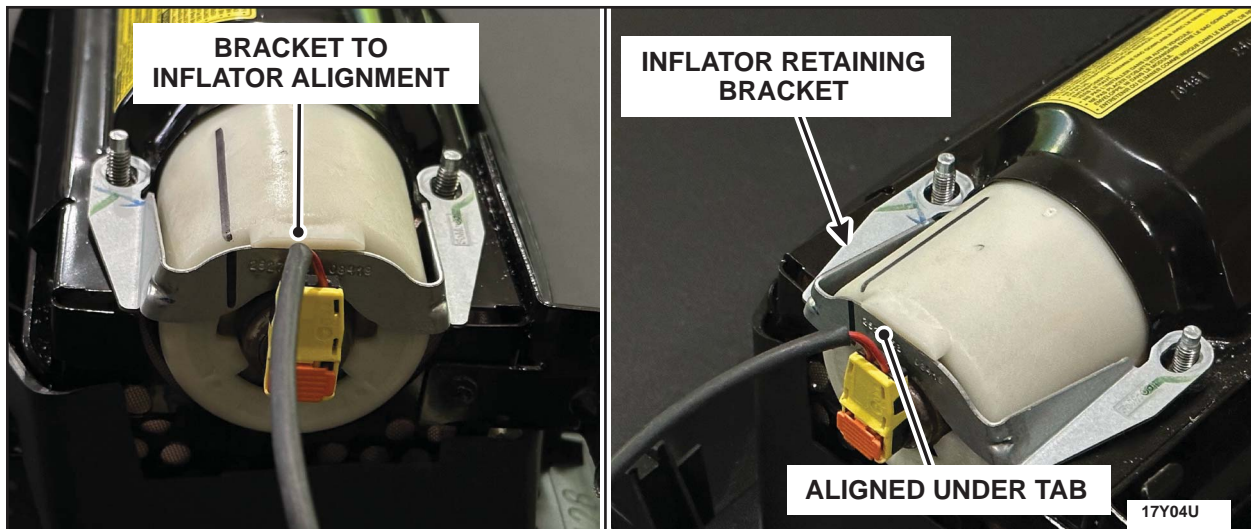

FIGURE 13
11. The inflator should be rotated so that the alignment feature on the white end cap is in the upward position. Install the new inflator retaining bracket by sliding the end between the connector and the end cap alignment feature. See Figure 13.